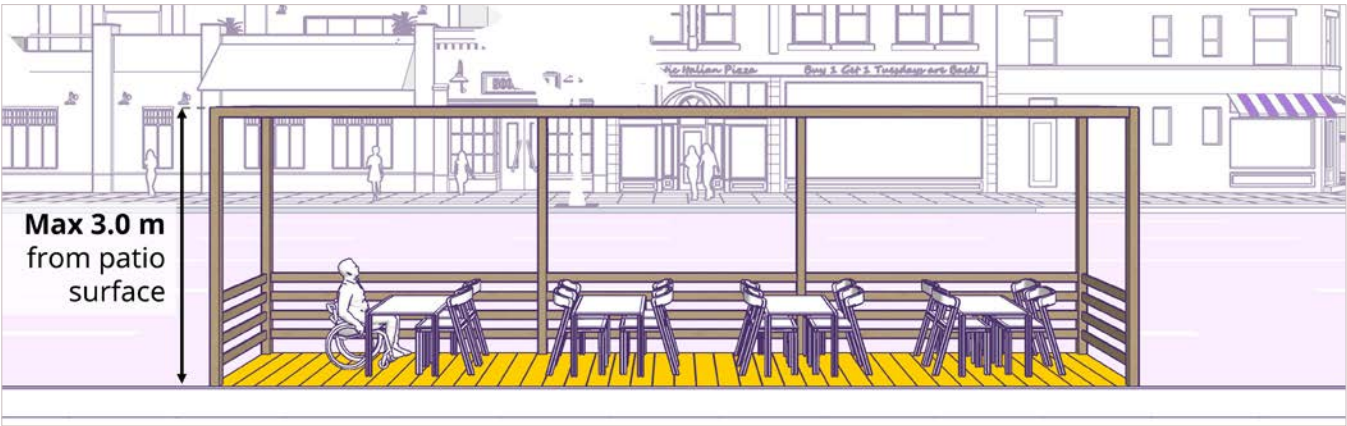

Figure 29: Posts and open frames
- a. The height of any post or frame must not exceed **3.0 m** from the patio surface (see Figure 29).